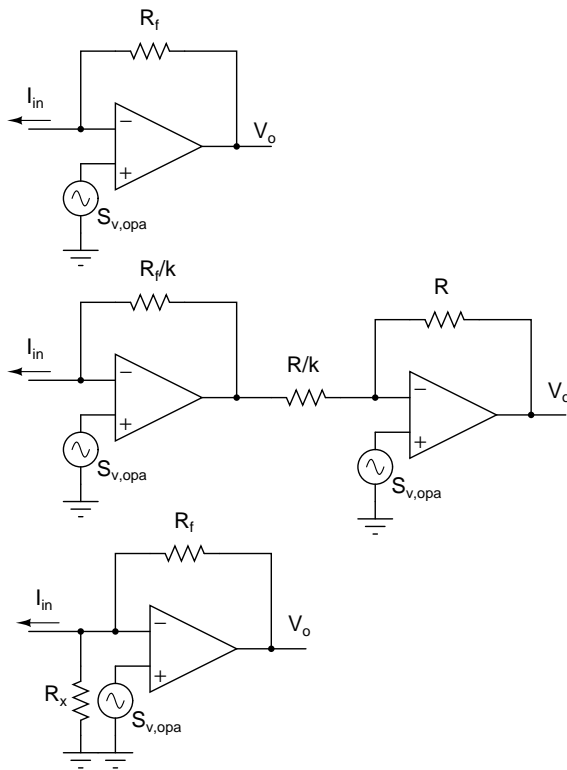

Figure 1:
1. Determine the output noise spectral density and input referred (current) noise spectral density of the transimpedance amplifiers in Fig. 1. The opamp has an input referred voltage noise spectral density of $S_{v,opa}\text{ V}^2/\text{Hz}$ and is otherwise ideal.